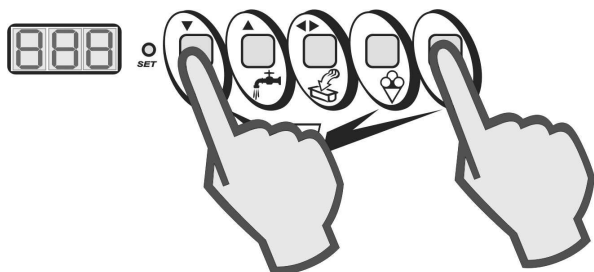

Fig.1
- With the machine at STOP, press the STOP and SEMI-AUTOMATICO (SEMI-AUTOMATIC) keys at the same time to access the slush production program with consistency control and continuous mixing (Fig. 1).